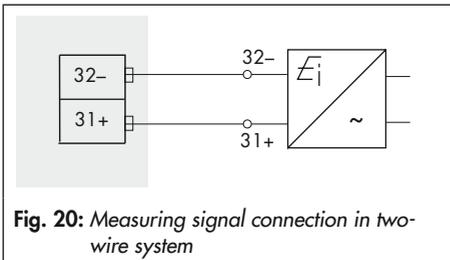

Fig. 20: Measuring signal connection in two-wire system
11. Guide the measuring signal lines (min. 8 mm stripped length) through the cable gland and connect them to the spring-cage terminal (31, 32) on the terminal board (see Fig. 20). Observe the correct polarity.